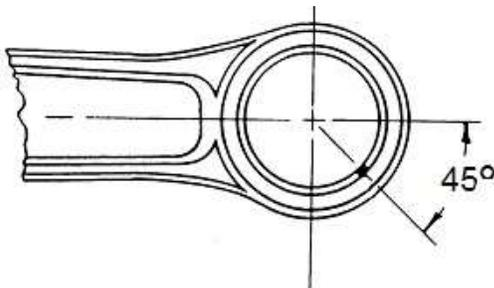

Figure 36
- E. Make sure the split in the bushing is located so that it is toward the piston end of the connecting rod and 45° off the centerline (Figure 36) and press the bushing into the connecting rod until the edge of the bushing is flush with the surface of the connecting rod.